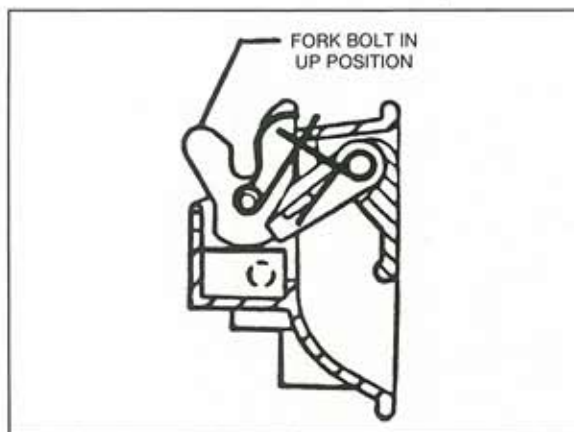

FIGURE 1
2. Set fork bolt in up position (Fig. 1).